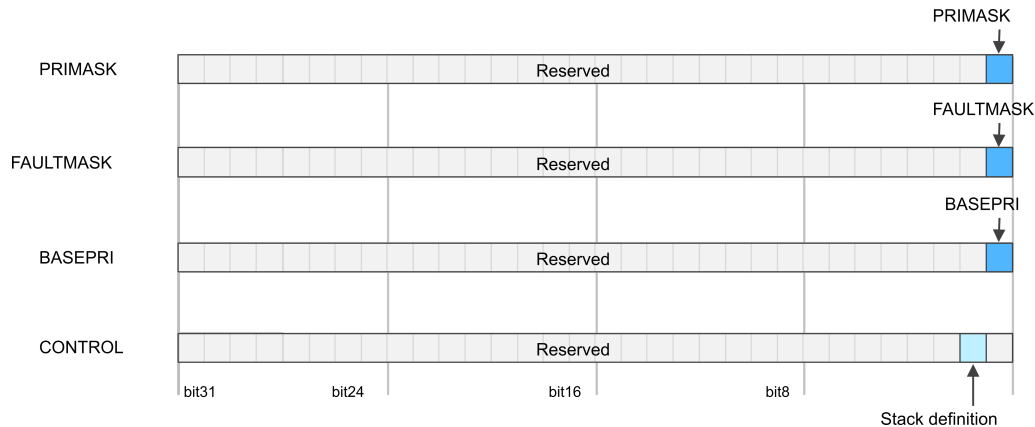

Figure 1.19: Bit Configuration of the special Registers.
- **Exception mask registers:** they disable the handling of exceptions by the processor. Disable exceptions where they might impact on timing critical tasks (see Figure 1.19).